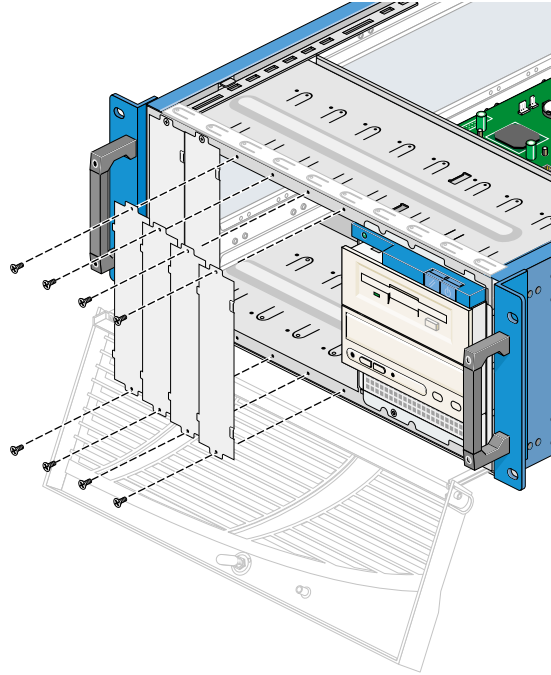

Figure 5-4 Installing Bezel Blanking Plates
11. If you are removing an optional second drive cage and not replacing it right away, install four blanking plates at the front of the node, starting at the left side of the node chassis front. Screw in each one at the top and the bottom; see Figure 5-4.